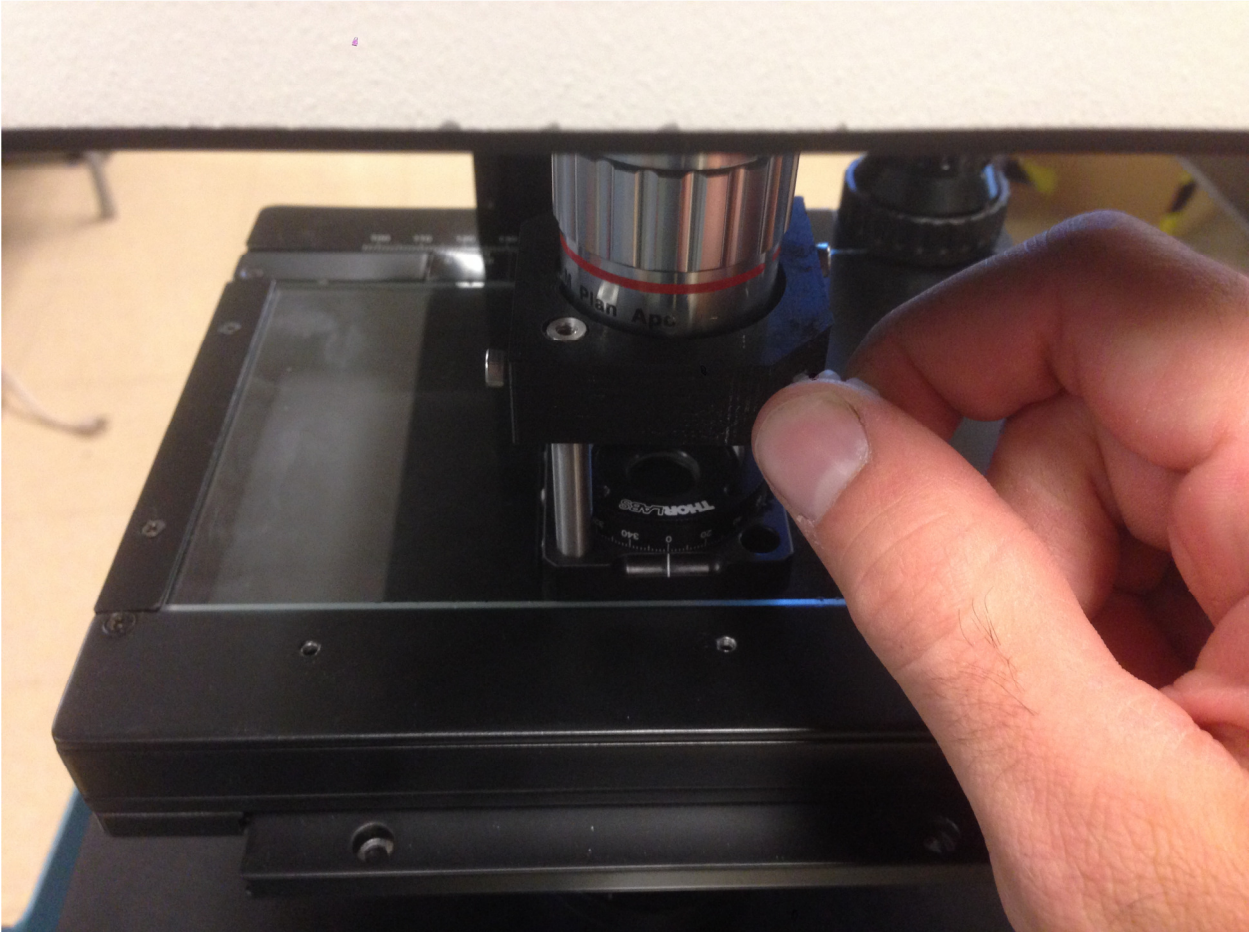
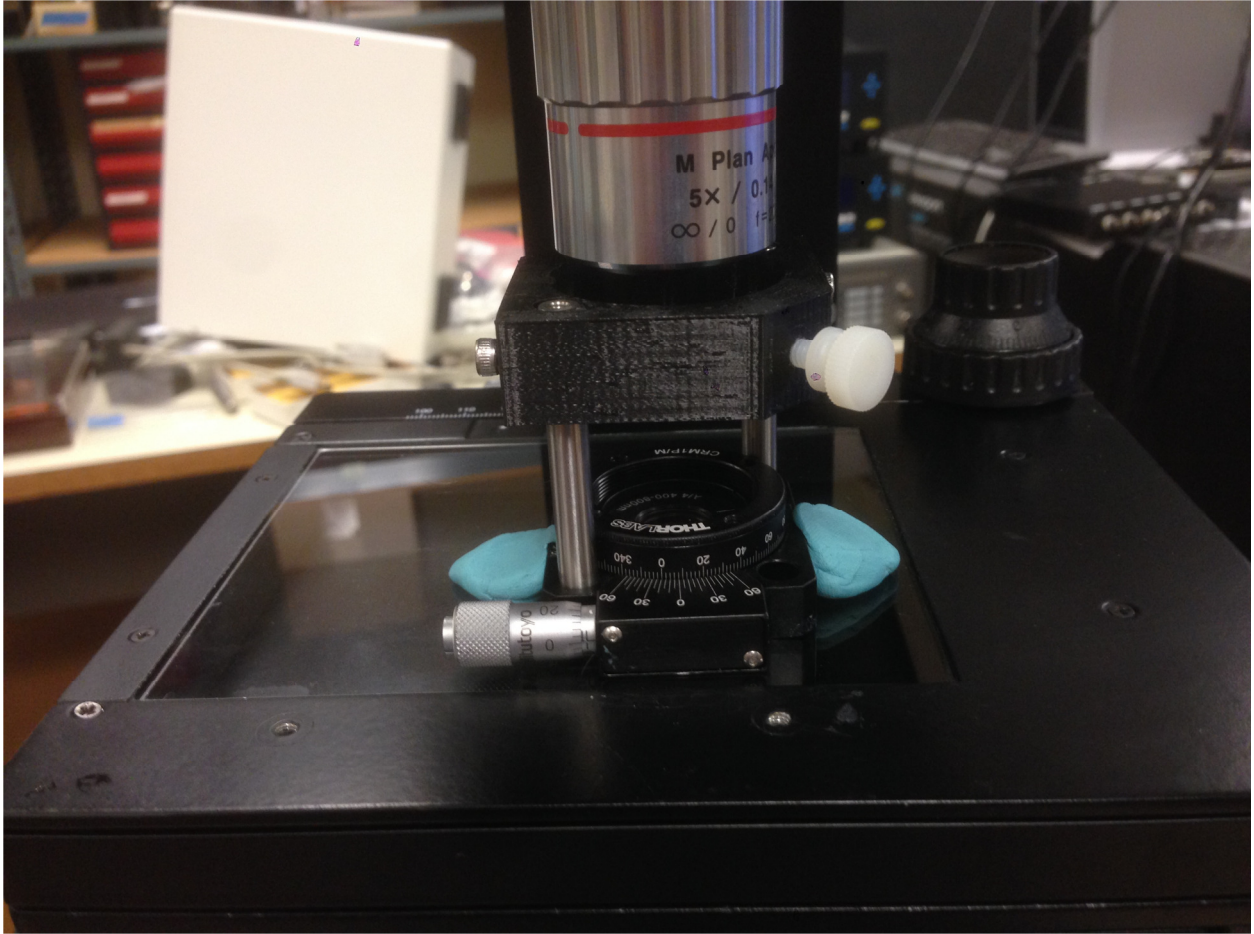

Figure 27.
Figure 28.
12. Tighten the screw as shown in Figure 27 to center the optic under the objective, place blue mounting putty as shown in Figure 28 to keep the optic from moving. **It is important that the optic be as flat as possible with respect to the optical train.**